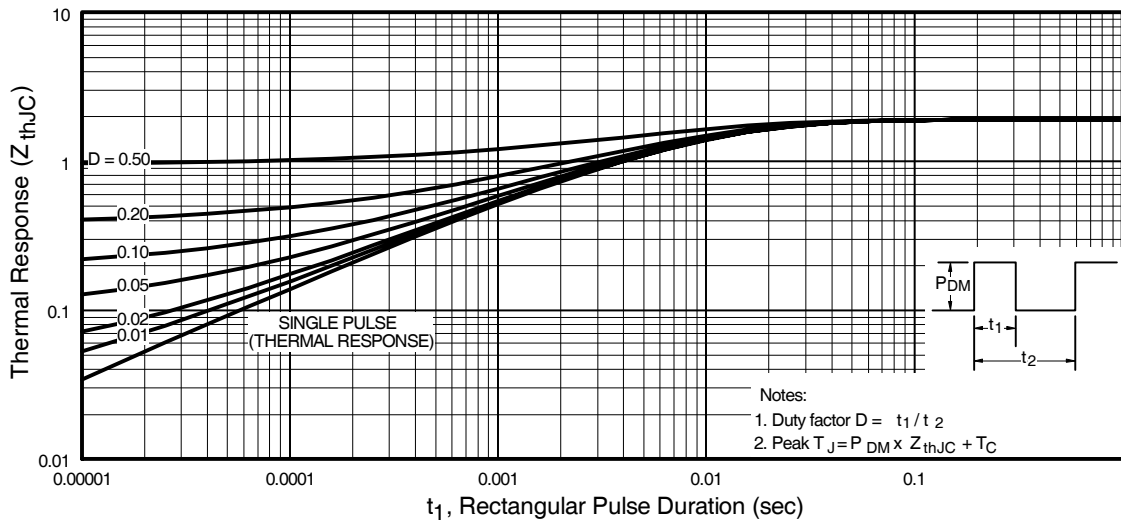

Fig 11. Maximum Effective Transient Thermal Impedance, Junction-to-Case
- ① Repetitive rating; pulse width limited by max. junction temperature. (See fig. 11)
- ② V_{DD} = 25V, starting T_J = 25°C, L = 3.1mH